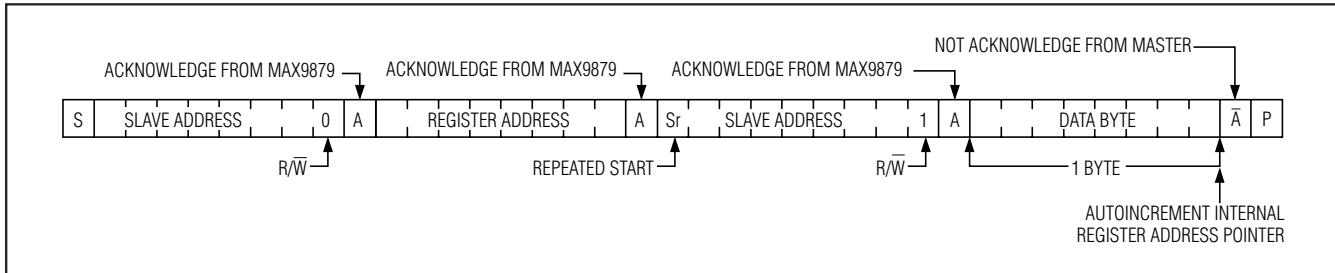
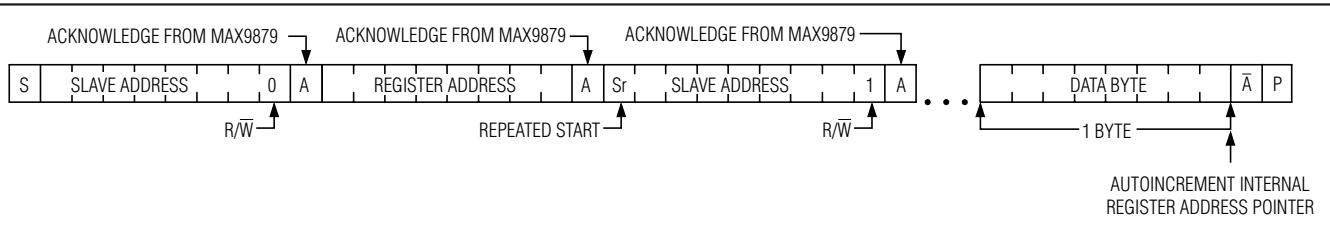

Figure 11. Reading One Indexed Byte of Data from the MAX9879
Figure 12. Reading n Bytes of Indexed Data from the MAX9879
The address pointer can be preset to a specific register before a read command is issued. The master presets the address pointer by first sending the MAX9879's slave address with the R/W bit set to 0 followed by the register address. A REPEATED START (Sr) condition is then sent followed by the slave address with the R/W bit set to 1. The MAX9879 then transmits the contents of the specified register. The address pointer autoincrements after transmitting the first byte. The master acknowledges receipt of each read byte during the acknowledge clock pulse. The master must acknowledge all correctly received bytes except the last byte. The final byte must be followed by a not acknowledge from the master and then a STOP (P) condition. Figure 11 illustrates the frame format for reading one byte from the MAX9879. Figure 12 illustrates the frame format for reading multiple bytes from the MAX9879.